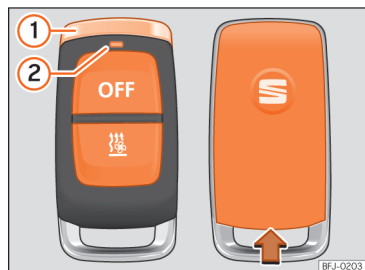

Fig. 96 Independent heating: radiofrequency remote control key
When the buttons are pressed, the LED of remote control »» Fig. 96 ② gives the user a range of information:
- Secure the remote control with the chrome pin »» Fig. 96 ① vertically facing upwards.
- Insert a suitable tool, e.g. a screwdriver, into the indentation in the remote control housing, in the direction of the arrow »» Fig. 96.
- Slide the cover in the direction opposite to the arrow until it clicks into place »» Fig. 96.